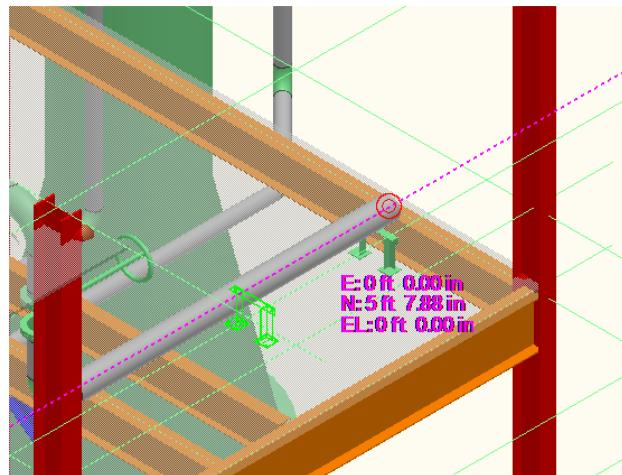

Figure 12: Placing the Second U Shaped Frame L2x2x1/8 w/Baseplate
- The command will now cycle to the position smartstep defaulting to all options you previously selected. You can change any options you wish and repeat step 8 to place another support, as shown in Figure 12.